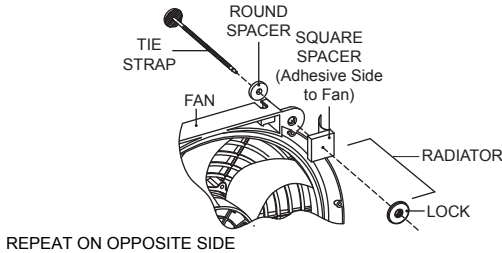
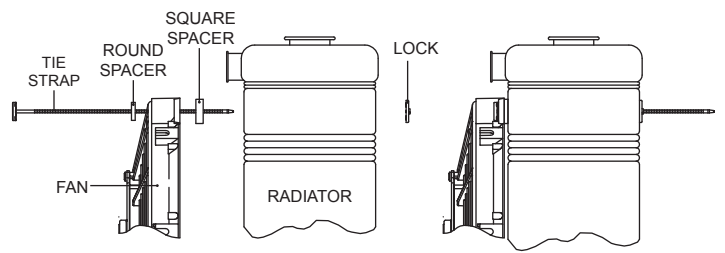

FIGURE 1
FIGURE 2
1. Peel backing and stick 4 rubber spacers on fan shroud as shown in **FIGURE 1**. Install the remaining 4 rubber spacers on the tie straps as shown in **FIGURE 2**.